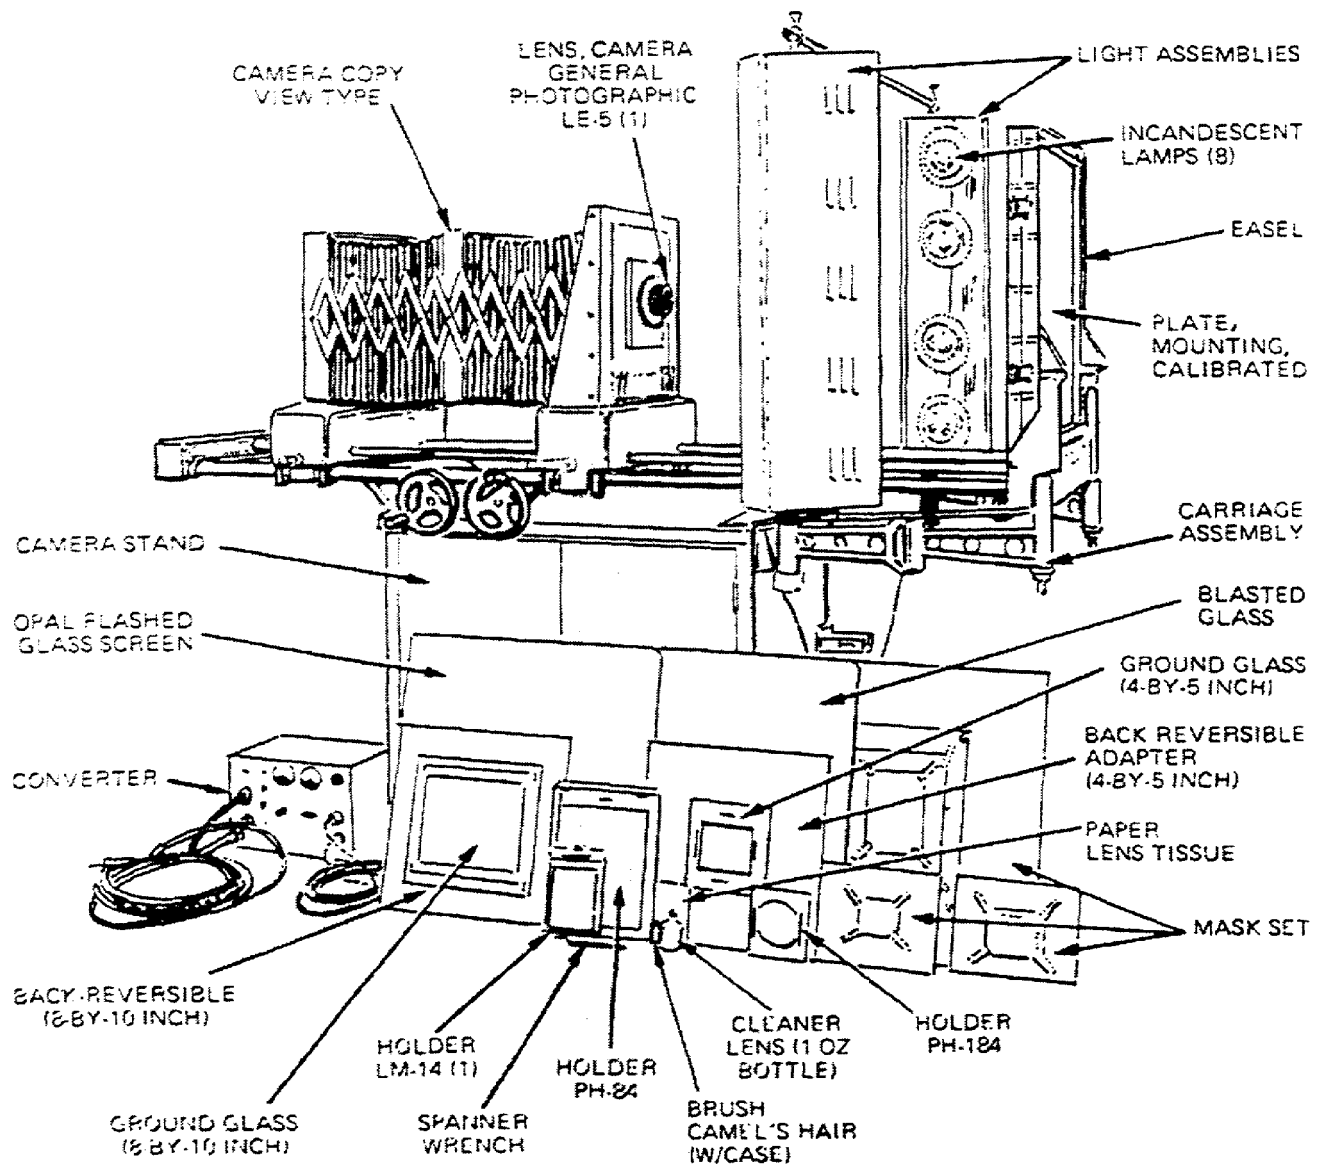

Figure 1-3. Camera Set, Still Picture KS-7A.
- c. Figure 1-3 shows an 8x10 camera set, Still Picture KS-7A, with components. This camera is most commonly used for copy work in the military today; but, here again, it all depends on the final product, whether it is to be a 35mm transparency, an 11x14-line copy, or large color print. The size of the original and final product desired will dictate the format you should use.